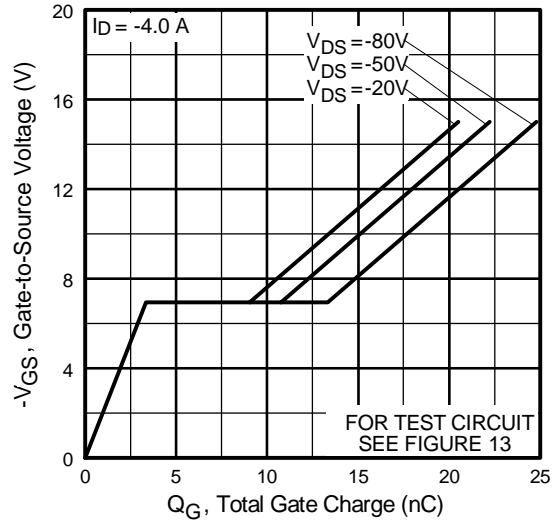

Fig 6. Typical Gate Charge Vs. Gate-to-Source Voltage
| Q_{gd} | Gate-to-Drain ("Miller") Charge | — | — | 15 | | $V_{GS} = -10V$, See Fig. 6 and 13 ④ ⑥ |